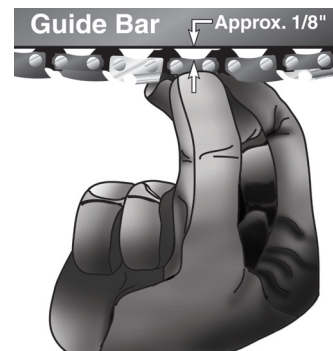

Figure 8 - Check Chain Tension
3. Pull chain with light force 1/8" away from bottom of guide bar and release (see Figure 8). If chain lightly snaps back into place, tension is correct. A slight sag (1/16" or less) between chain and bottom of guide bar is acceptable.